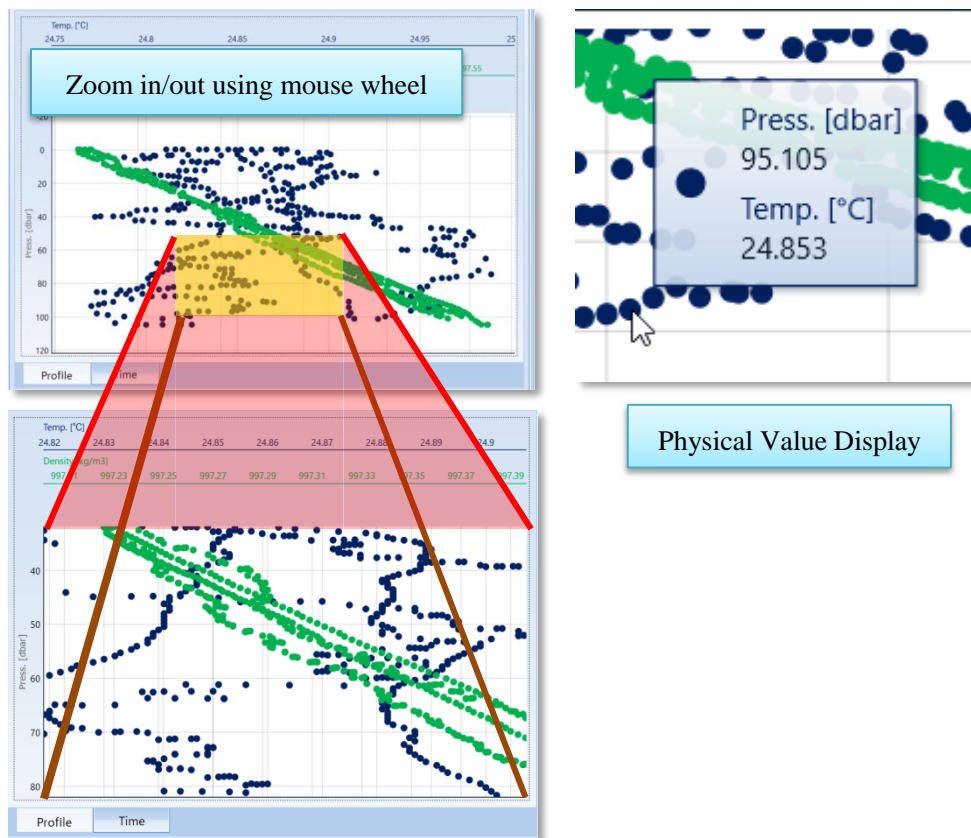

Figure 6.32 Supporting function for plot display
- (3) Placing the cursor on plot shows physical values of the coordinates. Able to zoom in and out by using mouse wheel, and specify the zooming area by dragging the mouse while holding left click button. (Figure 6.32)